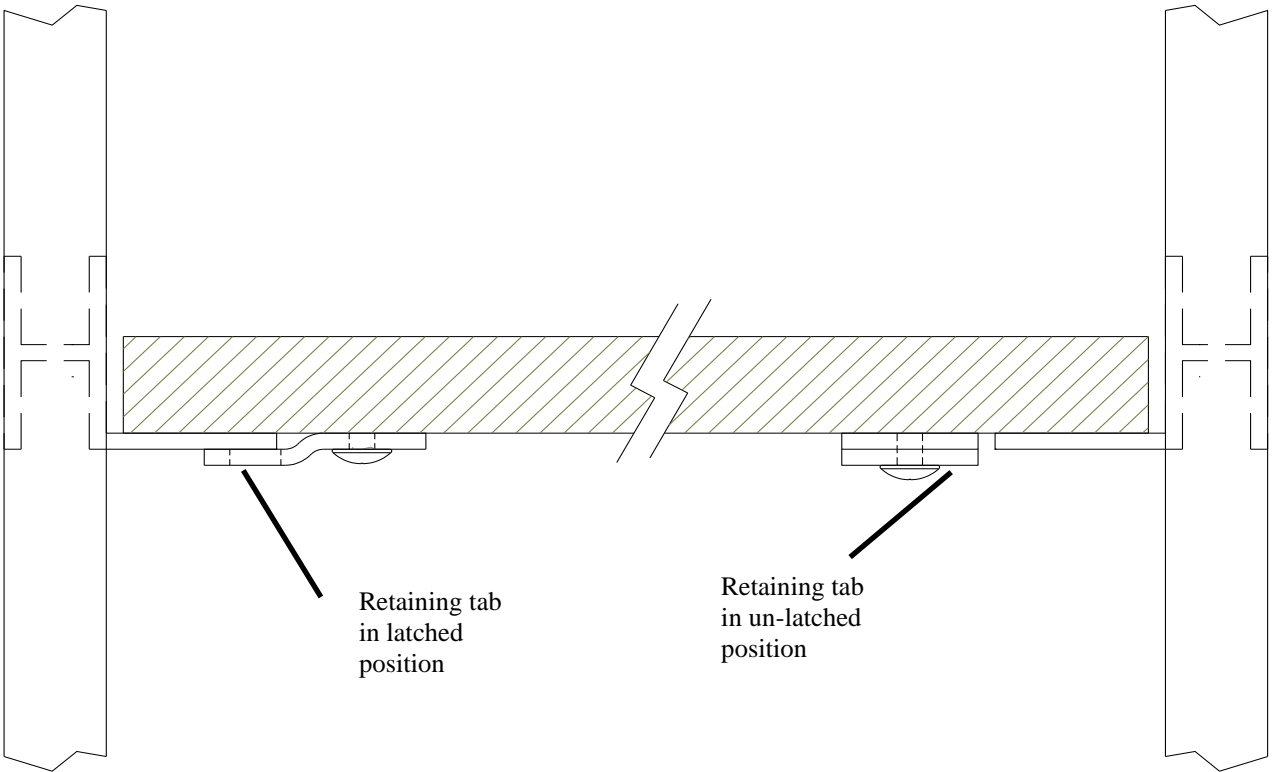

Figure 10
2. Place the floors on the aluminum shelf support flanges in the order shown on your plans. Rotate the safety tabs to point toward the sides of the division panel and fit under the aluminum shelf support. See figure 10.